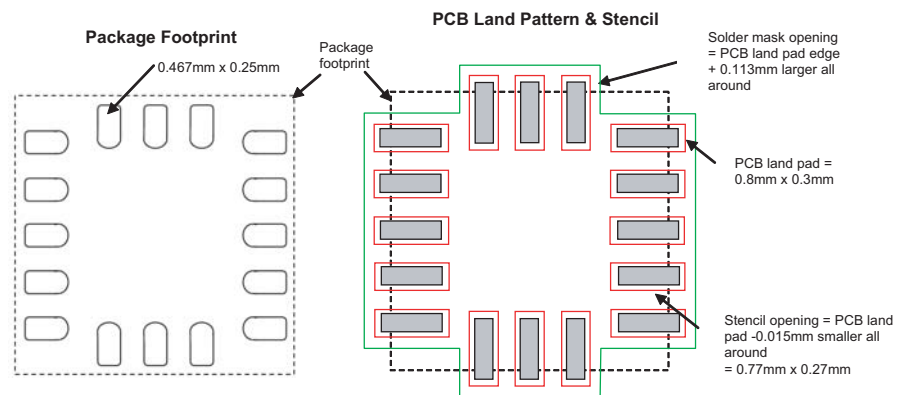

Figure 6. Recommended PCB Land Pad, Solder Mask and Stencil Opening Near Package Footprint
1. The PCB land should be designed with Non Solder Mask Defined (NSMD) as shown in Figure 6 and Figure 7.
3. PCB land pad is 0.8 mm x 0.3 mm as shown in Figure 6 and Figure 7.